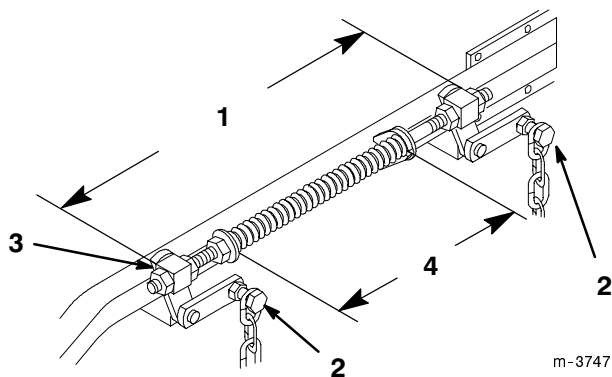

Figure 46
6. Loosen four (4) top chain bolts in slots. Check the length of the rod/swivel assemblies. Distance from outside of rear swivel to outside of front swivel should be 19-17/32" (496 mm) (Fig. 46). Make sure that all four swivels move freely in holes.
8. Lift up on four (4) top chain attachment bolts, in the slots, to take slack out of chains and tighten flange lock nuts. (Deck is still supported by two rear and one front blocks under mower.)
2. Springs are compressed so the distance between the two large washers should be 11" (279 mm) (Fig. 46).
3. Adjust by turning nut in front of each spring (Fig. 46). Clockwise will shorten spring; counterclockwise will lengthen spring.